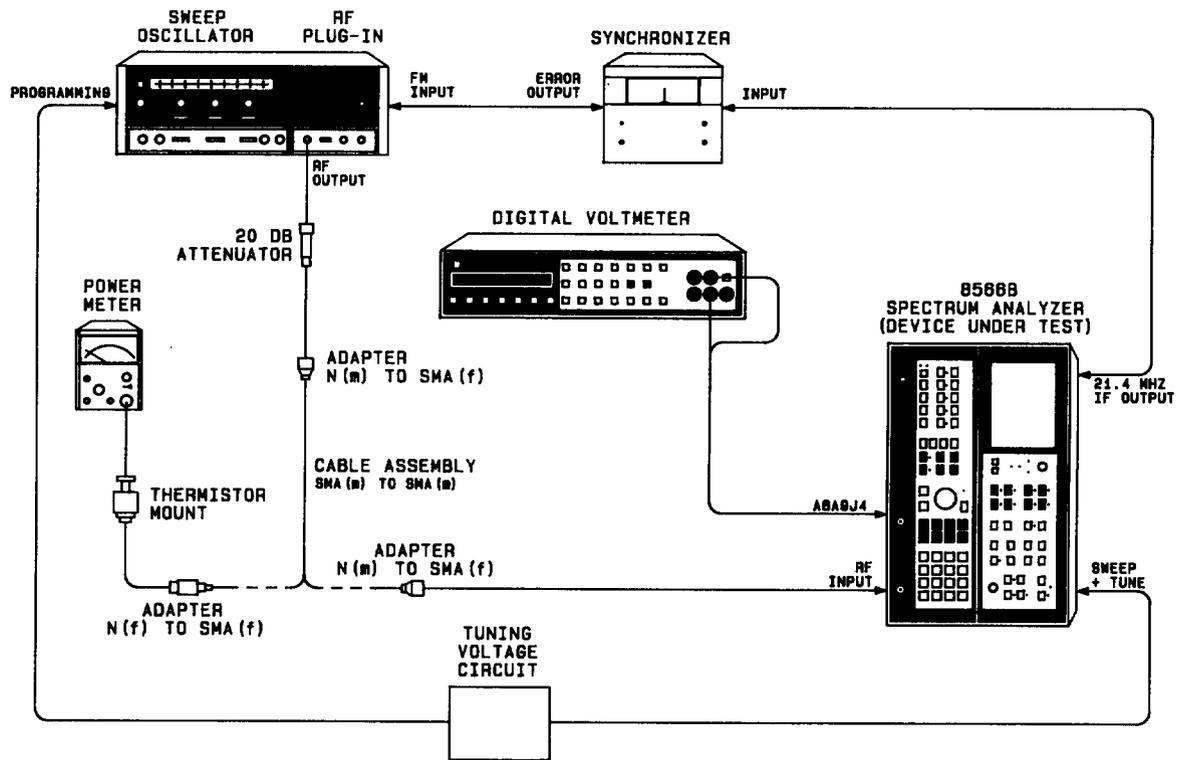

FIGURE 69. FREQUENCY RESPONSE ADJUSTMENTS SETUP (10 MHz TO 2.4 GHz)
3. Replace HP 86290B RF Plug-In with HP 86222A RF Plug-In (.01 – 2.4 GHz) and connect equipment as shown in Figure 69, with power meter/mount connected to sweep oscillator. Connect Tuning Voltage power supply as follows: +20V to A17TP4, –10V to A18TP4, and Ground to any convenient chassis ground.